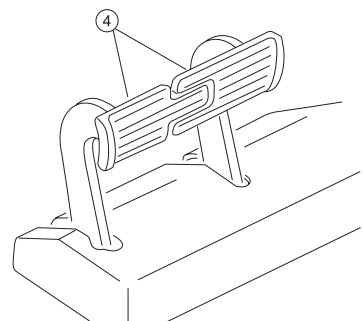

Figure 2-6
The brake pedal (4) (Figure 2-6)